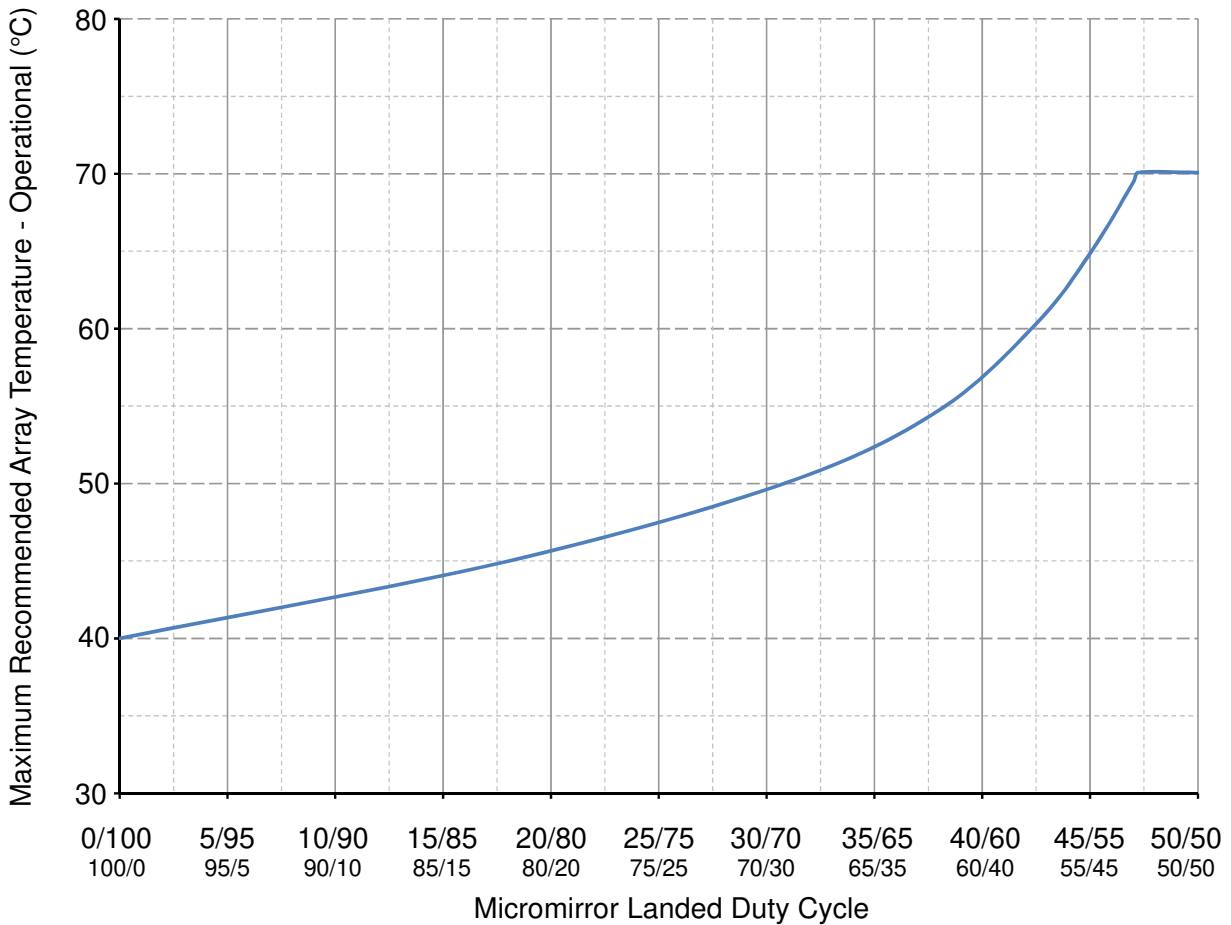

Figure 6-1. Recommended Maximum DMD Temperature—Derating Curve
- (13) Long-term is defined as the average over the usable life.
- (14) Per Figure 6-1, the maximum operational array temperature should be derated based on the micromirror landed duty cycle that the DMD experiences in the end application. See Section 7.7.
- (15) Array temperatures beyond those specified as long-term are recommended for short-term conditions only (power-up). Short-term is defined as cumulative time over the usable life of the device and is less than 500 hours.